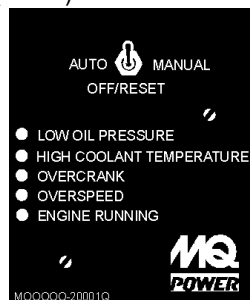

Figure 44. MPEC Engine Running Status LED (OFF)
6. Verify that the "Engine Running" status LED (Figure 44) on the Microprocessor Engine Control Module (MPEC) display is "OFF" (not lit).